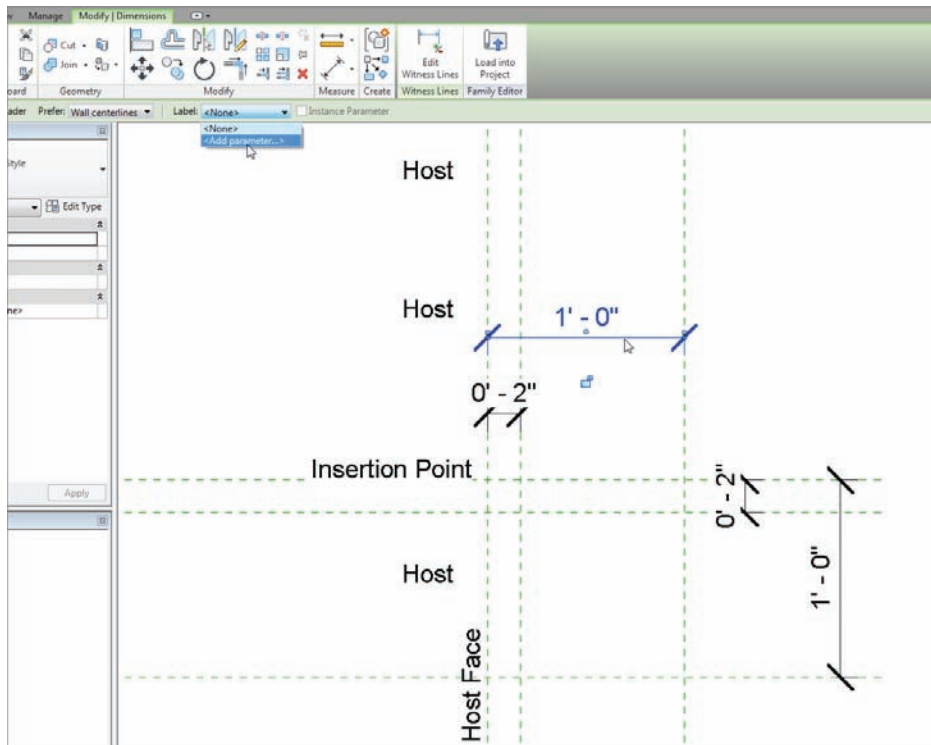

FIGURE 17.6 Choosing Add Parameter on the Options bar
2. On the Options bar, click the Label field, and choose Add Parameter (see Figure 17.6).